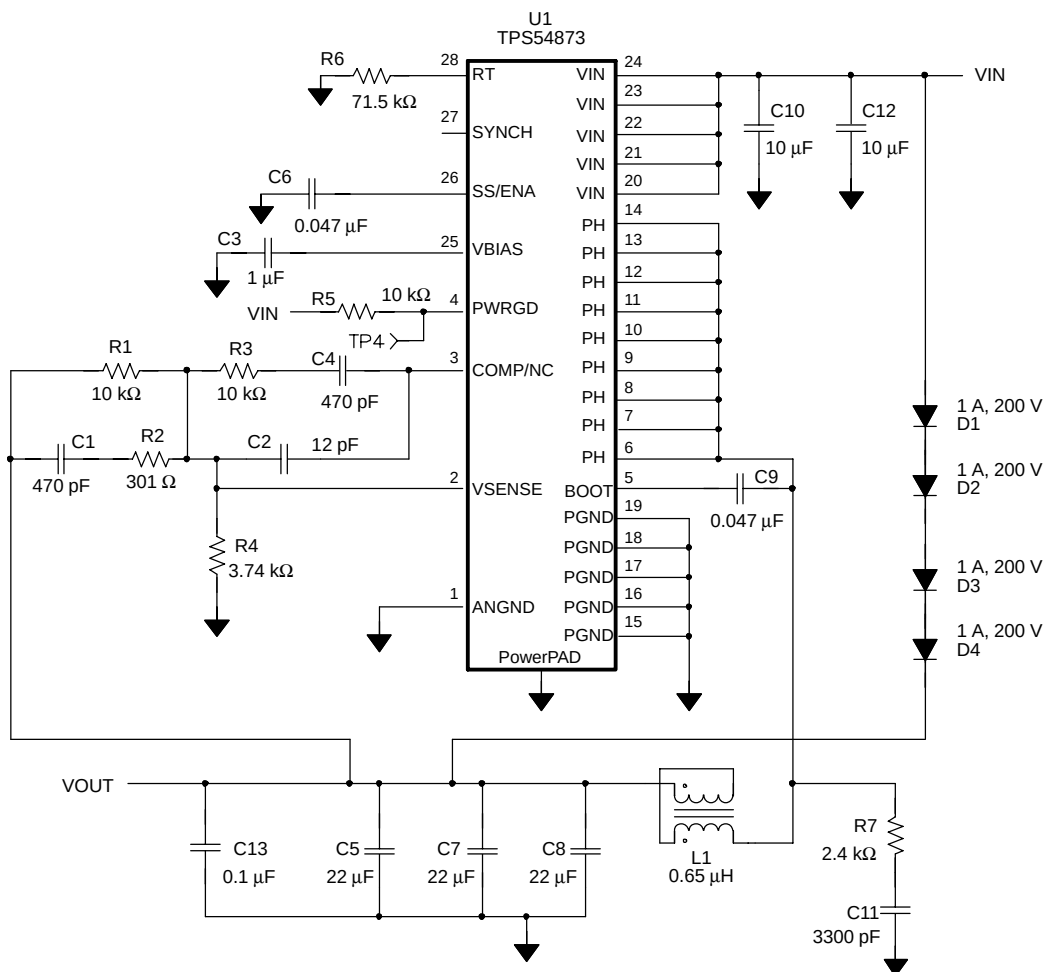

Figure 9. Application Circuit
(1) Specified by design
(2) Static resistive loads only
(3) Specified by the circuit used in Figure 9
⁽³⁾ Specified by the circuit used in Figure 9
Figure 9 shows the schematic diagram for a typical TPS54873 application. The TPS54873 (U1) can provide up to 8 A of output current at a nominal output voltage of 0.9 V to 3.3 V, and for this application, the output voltage